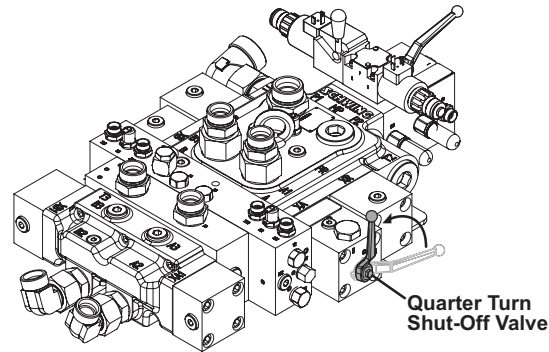

Figure 18
1. Close the concrete pump quarter turn shut-off valve located on the concrete pump control block (Figure 18).